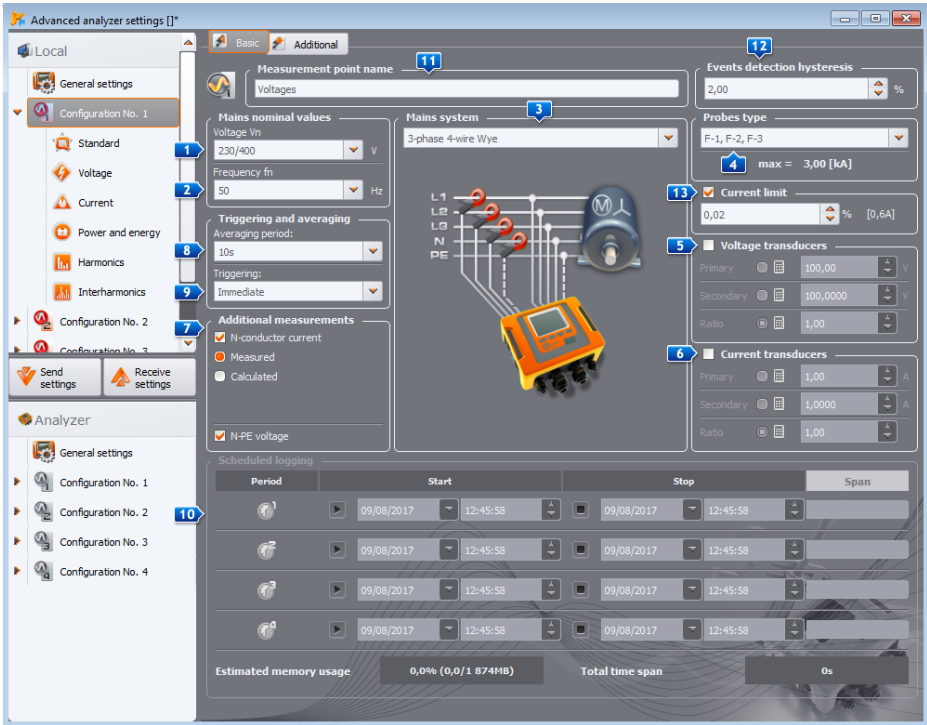

Fig. 27. Main settings of the recording configuration.
To change the main settings of the recording configuration, single-click **CONFIGURATION NO. 1** at **LOCAL** panel. The screen should look as shown in Fig. 27.
- mains system (element **3** as in Fig. 27) as a single-phase,